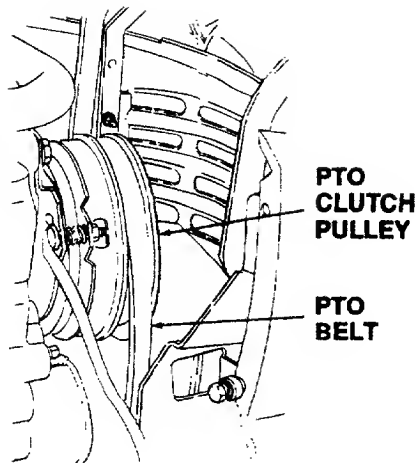

Figure 54
11. Install the forward end of the PTO belt on the engine PTO clutch pulley by passing the belt upward inside the tractor frame. Ensure that the narrow side of the PTO belt engages the groove of the pulley. (Refer to Figure 54.)